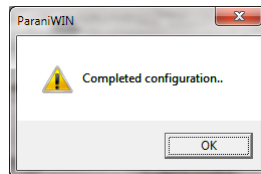

Figure 16: ParaniWIN Configuration Complete Dialog
- 12) In the SD200 instance of ParaniWIN, change the **Operation Mode** to *MODE2*, the **Command Response** option to *OFF*, and then click the **Apply** button. You will get the dialog shown in Figure 16 indicating success. Click **OK** to dismiss this dialog.
- 13) In the SD1000U instance, change the **Operation Mode** to *MODE1*, the **Command Response** option to *OFF*, and then click the **Apply** button. You will get the dialog shown in Figure 16 indicating success. Click **OK** to dismiss this dialog.